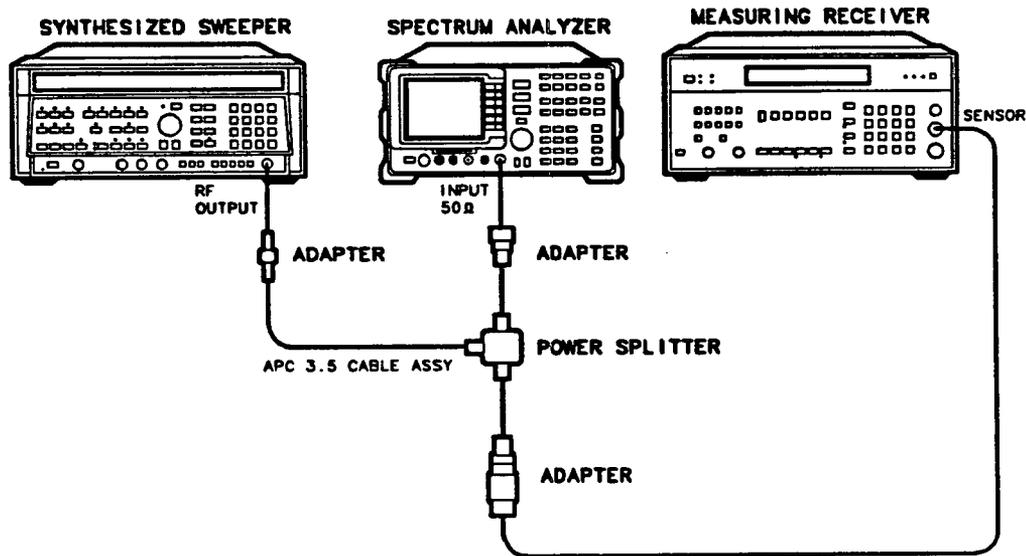

Figure 2-1. Frequency Response Setup
2. Connect the equipment as shown in Figure 2-1.